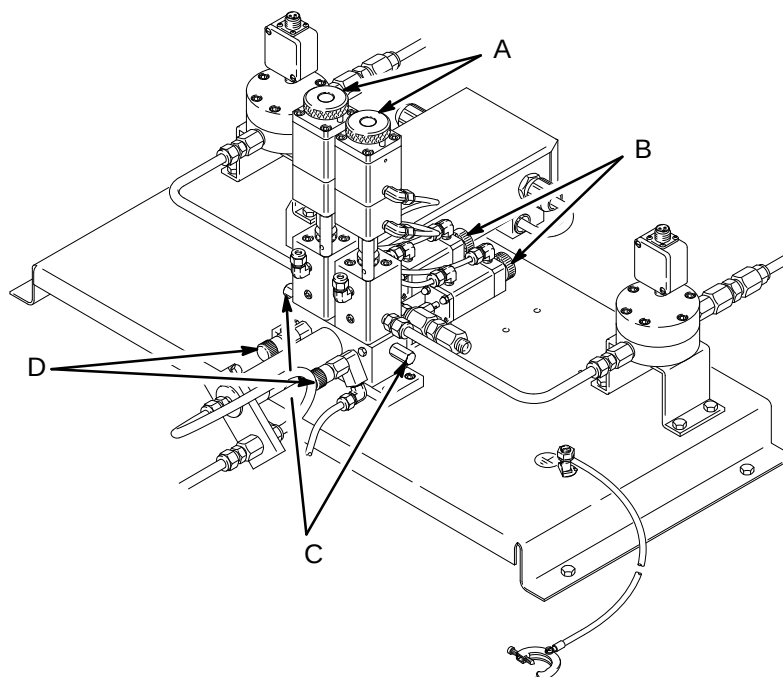

Fig. 8
3. Make sure that both ratio check valves (D) are closed. See Fig. 8.
5. Close the PrecisionMix fluid passages by turning the fluid shut-off knobs (C) in.